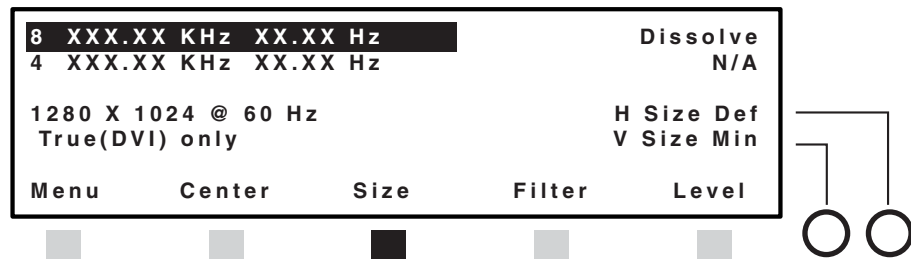

Figure 3-27 — Sizing an image.
1. From the default screen, press the Size button (figure 3-27). The preview input is highlighted.